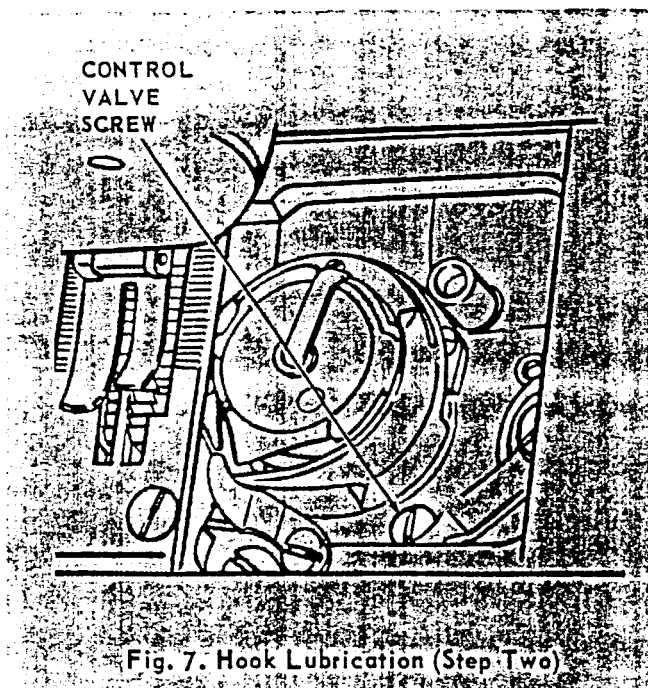

Fig. 7. Hook Lubrication (Step Two)
2. Turn control valve screw shown in Fig. 7 clockwise for more oil; counterclockwise for less oil. Re-tighten control valve set screw.